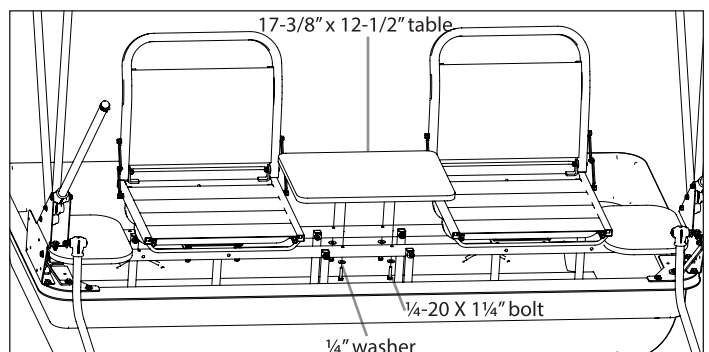

FIGURE 8
12. Using (4) ¼-20 x 1¼" bolts and (4) ¼" washers, attach the large table (15646) to the seat rail (14818). **SEE FIGURE 8**